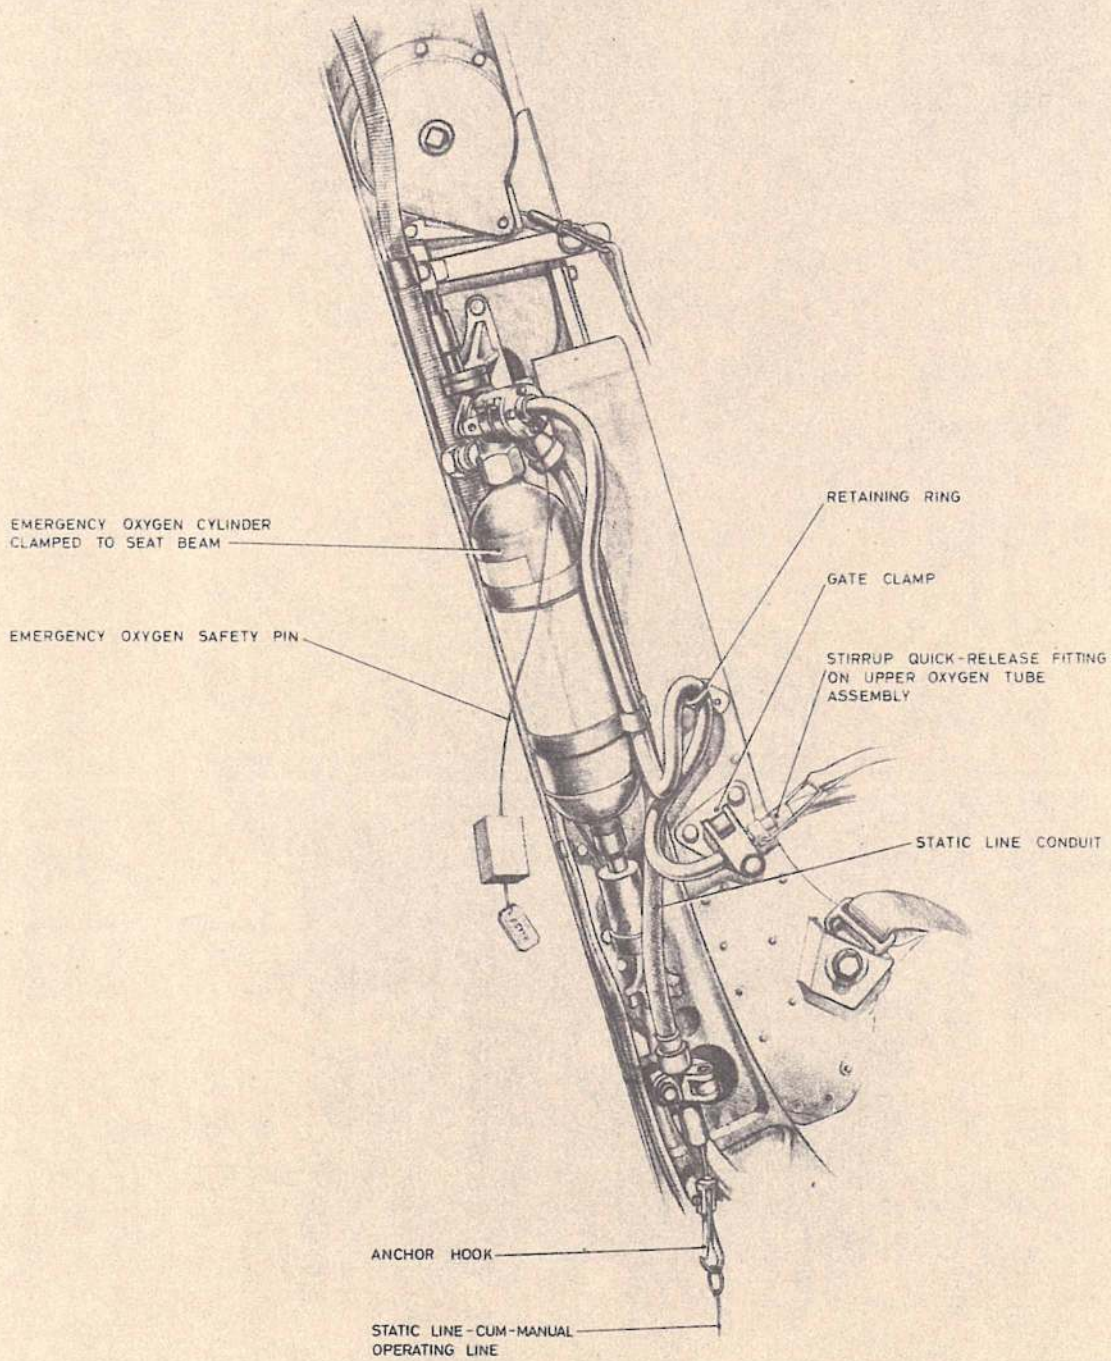

Fig. 1. Arrangement of emergency oxygen supply
25. The following procedure is to be used when equipping the seat: refer to fig. 1 to 3 for detail as necessary :-